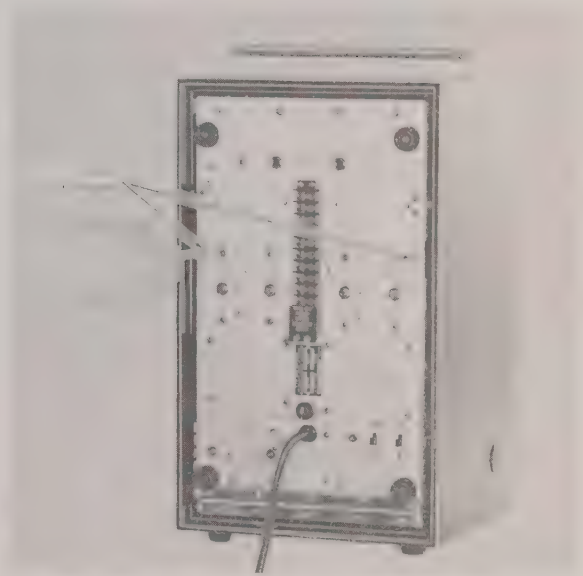

FIGURE 6-2 RELEASE UNIT FROM CASE
6. Release unit from case by turning lock mechanism counterclockwise several turns. (Fig. 6-2)
6. Secure unit in case by turning the locking mechanism several turns in a clockwise direction (Fig. 6-2).